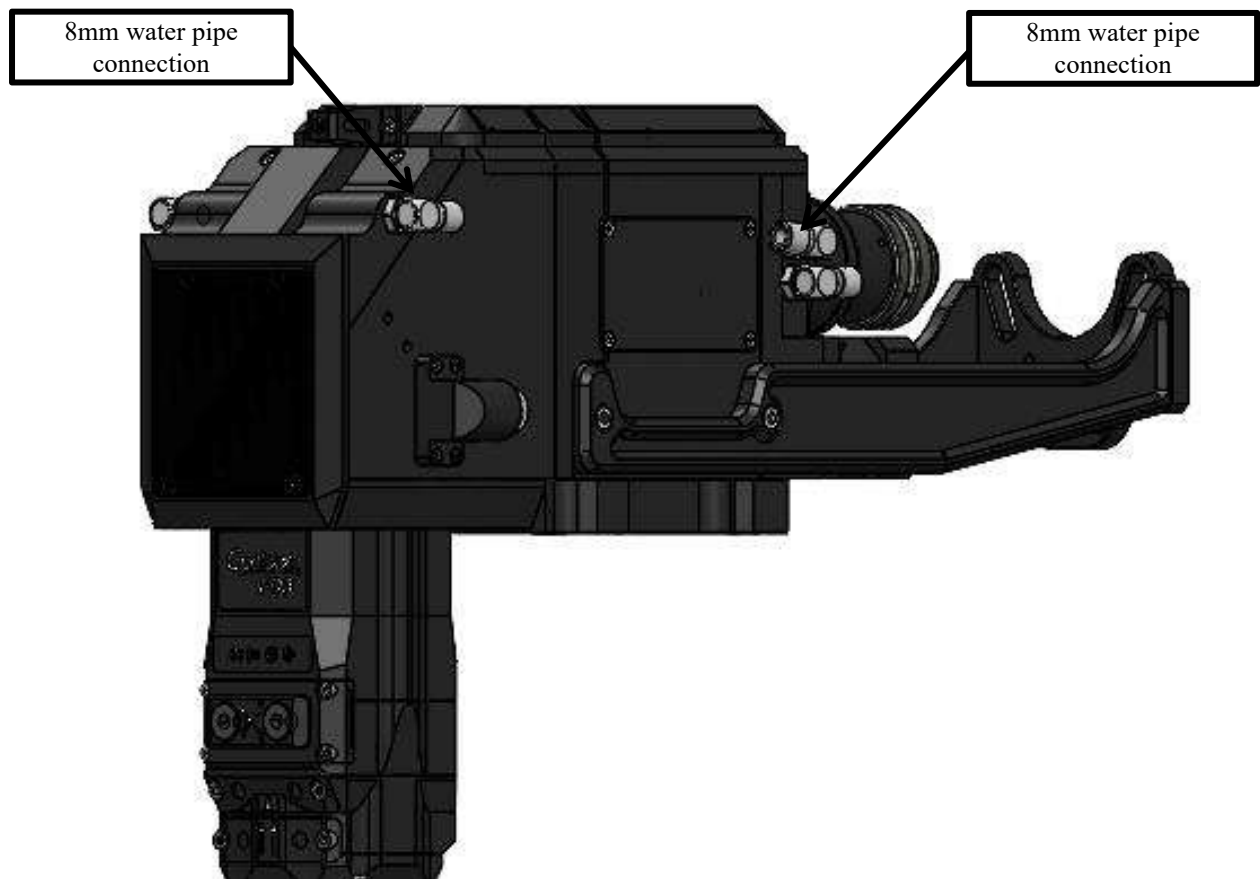

Figure 1.4
① Used for cooling the fiber base, collimation protective lens, reflective lens and sensor; 1 inlet and 1 outlet cooling pipes, as shown in Figure 1.4 below.